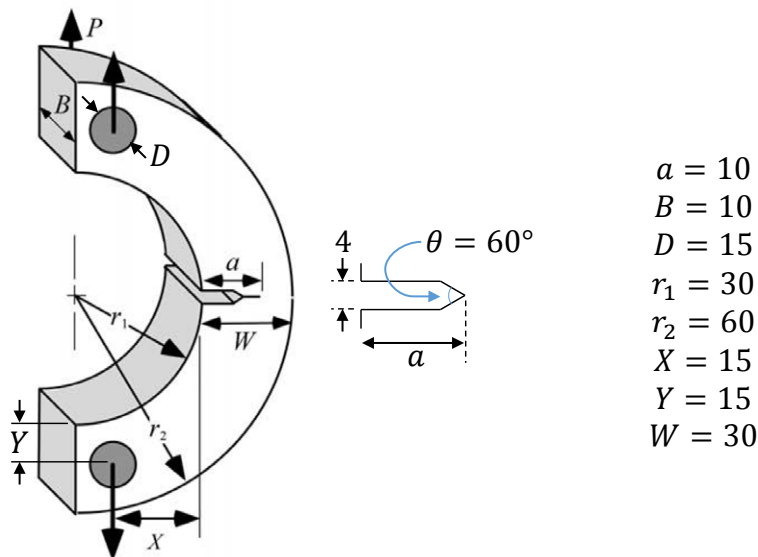

Figure 1: Geometry of the component. All dimensions are in mm.
A 3d printed polymer component has developed a crack as shown in Fig. 1. You have been asked to predict the maximum load P that the structure can support.
The next step is to create a Finite Element (FE) model of the part shown in Fig. 1. This will be done with the commercial software Abaqus. Please consult *Abaqus.pptx* (on myCourses) for instructions on how to access Abaqus.